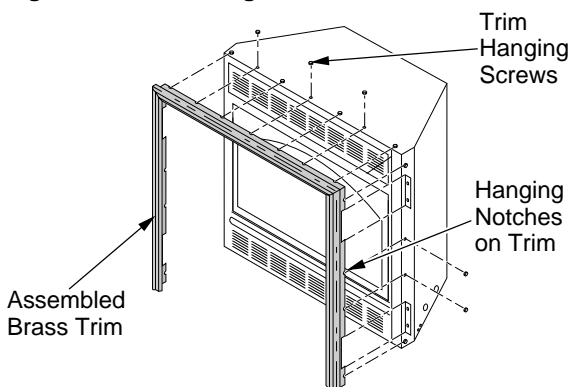

Figure 7 - Attaching Brass Trim to Fireplace (VYGF33PRB Shown)
8. Tighten trim hanging screws (#10 x 6.25 shoulder) into holes in cabinets. Place the assembled trim onto fireplace cabinet. Align hanging notches on trim with hanging screws on side of fireplace (see Figure 7). Push trim firmly into place, sliding hanging notches over hanging screws.
10. Install brass trim after final finishing and/or painting of wall (see Figure 7, page 8).
16. Install brass trim after final finishing and/or painting of wall (see Figure 7, page 8).